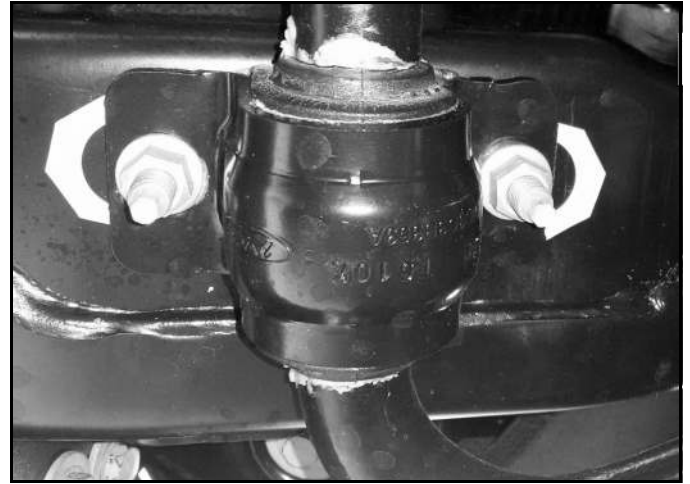

Figure 3
3. Unmount the sway bar from the frame (See Figure 3). Completely remove the sway bar fasteners and bolt clips from the keyholes in the truck frame. Retain the hardware for future re-installation if the plow mount is removed.